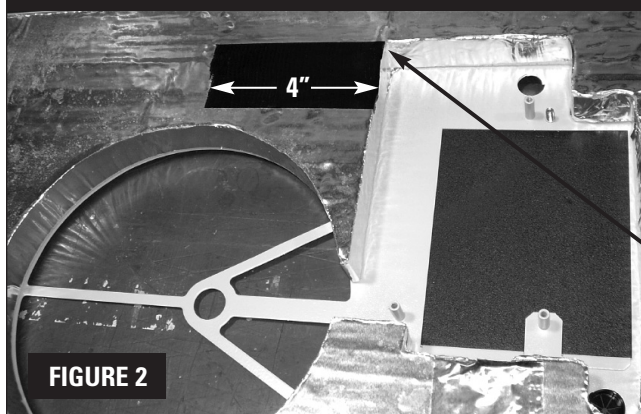

FIGURE 2
- A. Add a minimum of 4 inches of "non-conductive tape" to the inside of the inlet panel. (See **Figure 2**)
- B. Make sure the top edge of the tape lines up with the top edge of the foam cutout. (See **Figure 2**)